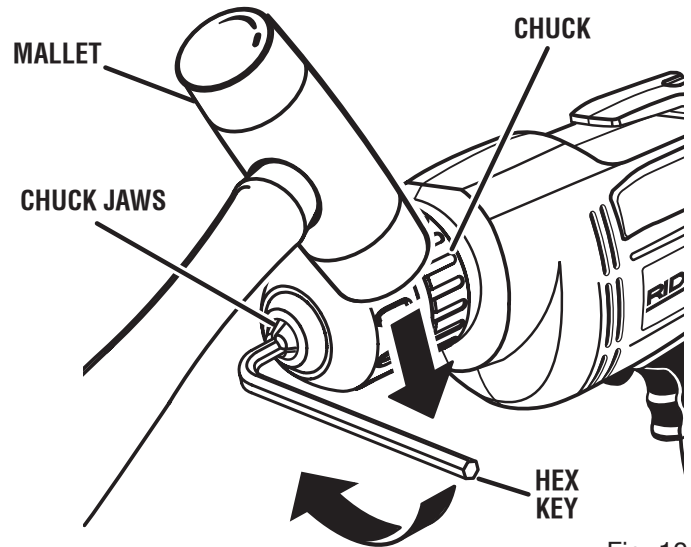

Fig. 10
See Figures 10 -11.
- Insert hex key into chuck and tighten chuck jaws securely. Tap hex key sharply with a mallet in a clockwise direction. See Figure 10. This will tighten the chuck on the spindle.
See Figures 10 - 12.
- Tap the hex key sharply with a mallet in a clockwise direction. See Figure 10. This will loosen the screw in the chuck for easy removal.